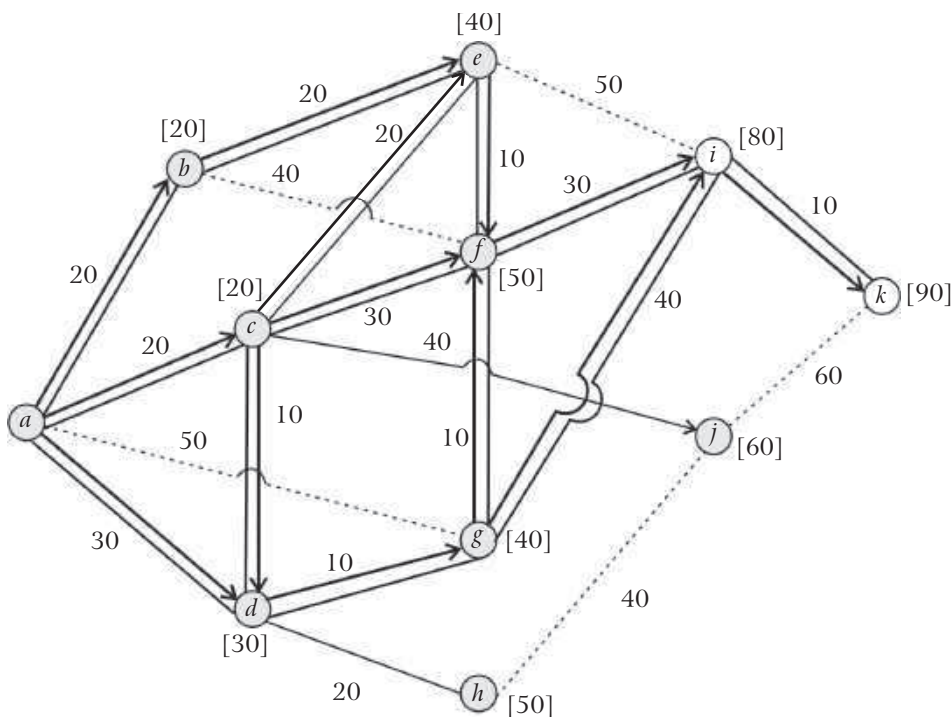

Fig. 8.27
Step 4: Now add stations i and k to which one can go from the stations taken in step 3 and draw the links by solid and dotted lines by the method explain in step 2. Also write the least cost from station a to that station on the corresponding station. All these entries are done in fig. 8.27.